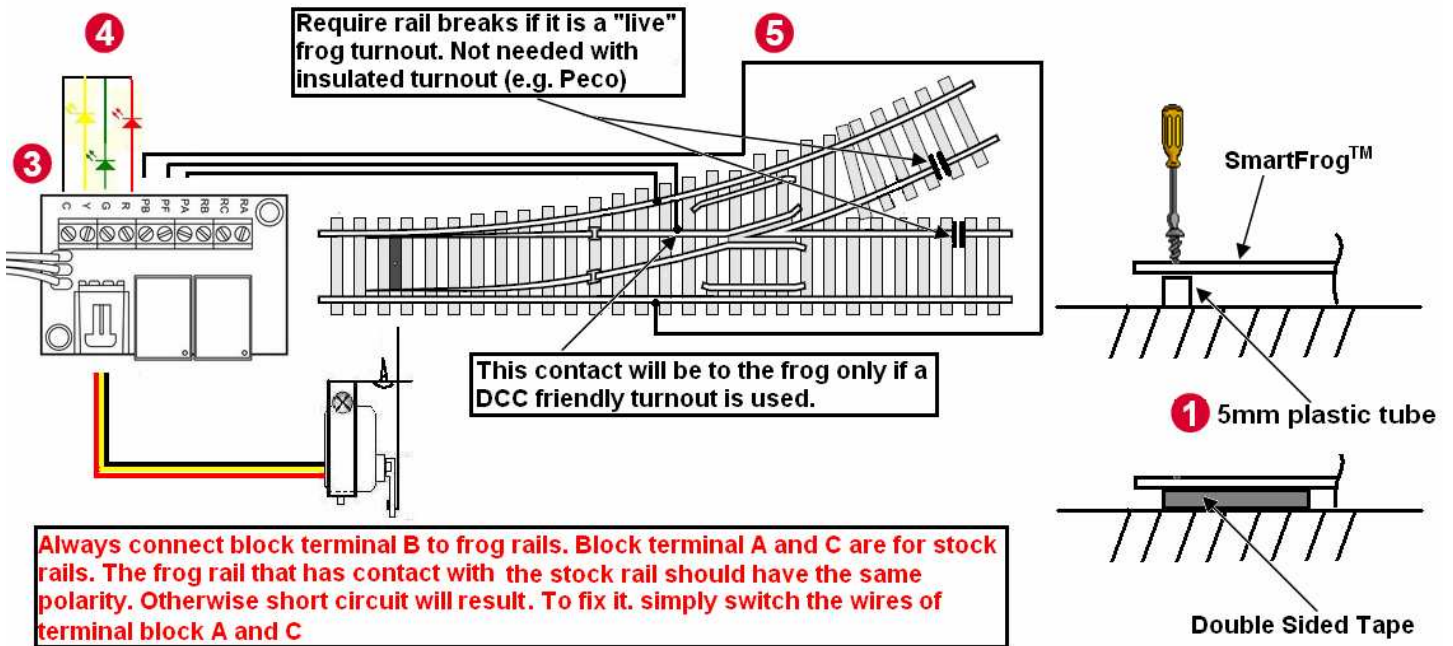

Figure 2 The Super SmartFrog™ Installation + DC Power Routing
5. Wire a turnout as shown in figure 2 for the DC power routing. Refer to SmartSwitch™ manual Figure 1.1 for the DCC friendly power routing.